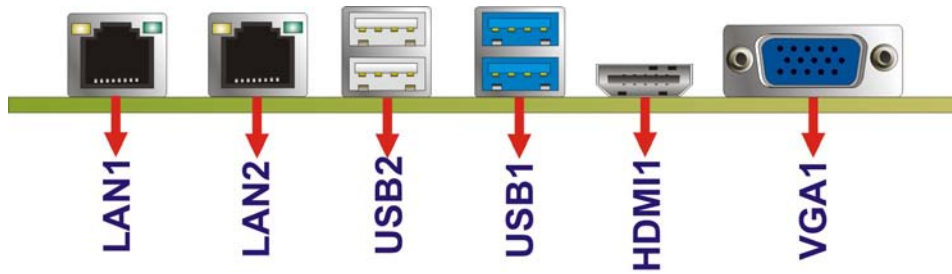

Figure 3-31: External Peripheral Interface Connector
Figure 3-31 shows the NANO-SE-i1 external peripheral interface connector (EPIC) panel. The EPIC panel consists of the following:
- CN Location: See **Figure 3-31**